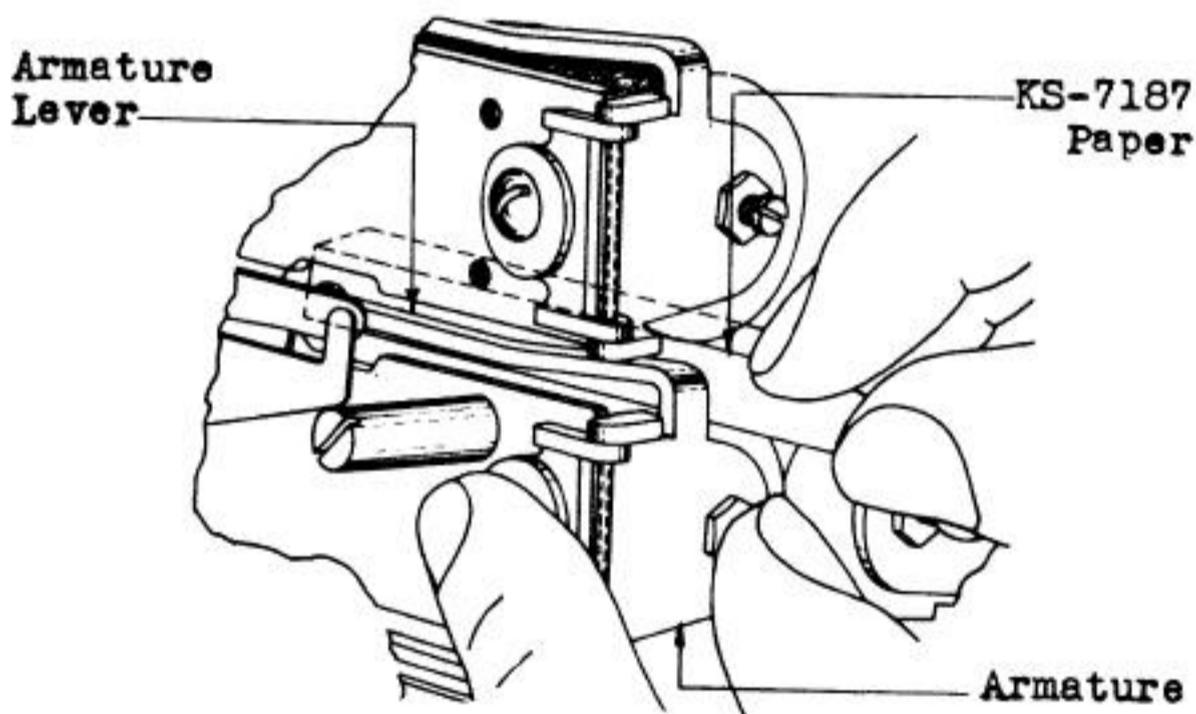

Fig. 34 - Method of Cleaning Backstop on 221, 222, 223, 224, 225, 247, 248, 251 and 252 Type Relays
6.14 Fold a piece of KS-7187 paper in half lengthwise. Insert one side of the folded paper between the armature lever and the back stop as illustrated by Fig. 34 at the same time holding the armature operated to permit the paper to enter easily. Hold the armature